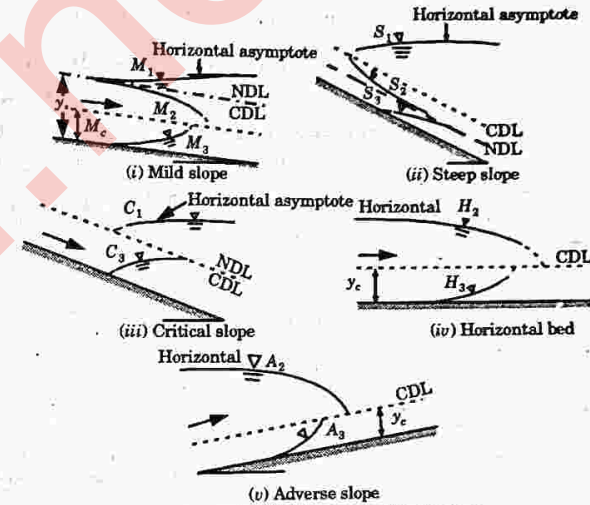

Fig. 2.14.1. Various GVF profiles.
7. The characteristic shapes and end conditions of all these profiles are shown in Fig. 2.14.1.